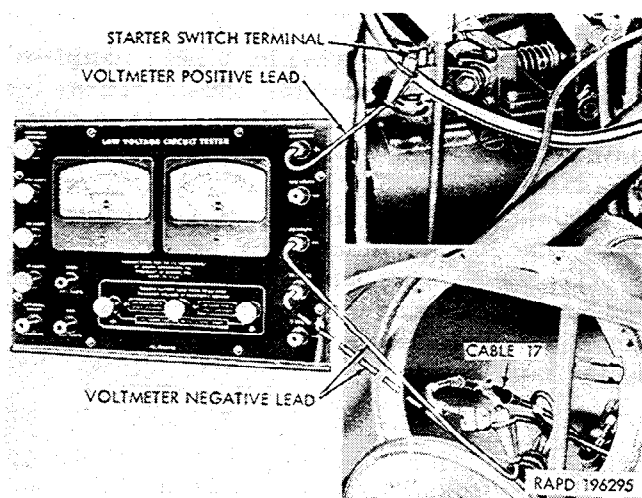

Figure 2-42. Checking headlight circuit resistance.
d. Service Headlights Dim. High resistance in headlight cables or ground circuit. Check cable and ground resistance (1) and (2) below).
(1) Check headlight cables resistance (fig. 2-42).